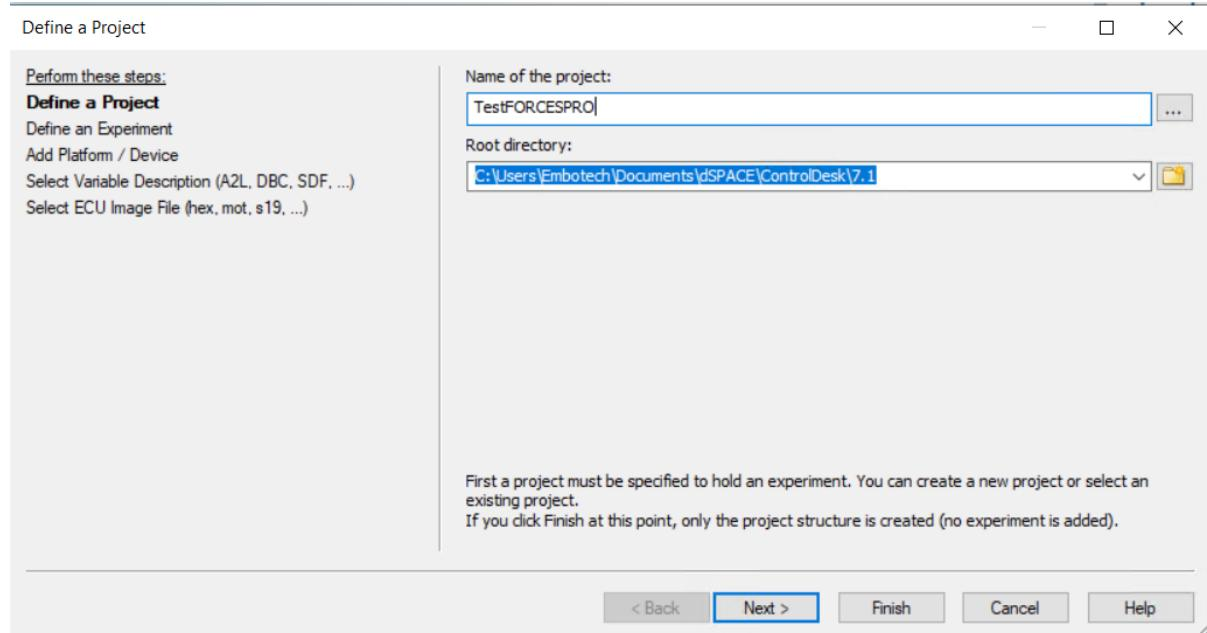

Figure 13.76: Start a new project and name it.
- 2) Open dSpace Control Desk and select create new project and name it (see Figure 13.76).